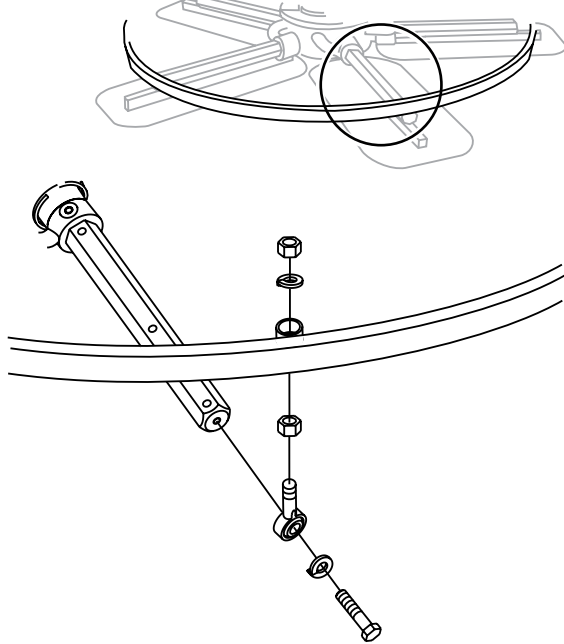

Figure 37. Stabilizer Ring
1. Remove the hardware securing the stabilizer ring to the trowel arm. (Figure 37)
5. Examine the bronze trowel arm bushing (Figure 37), and clean if necessary. Replace bushing if out-of-round or worn.